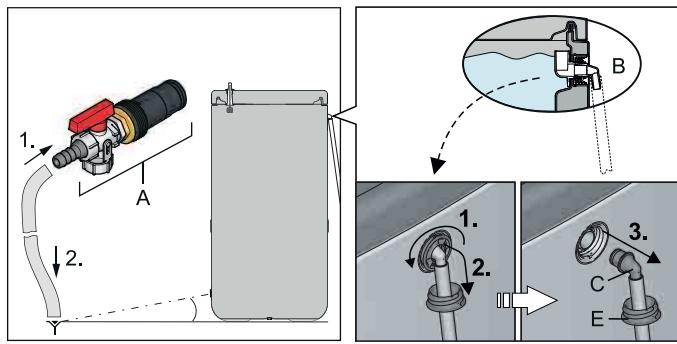
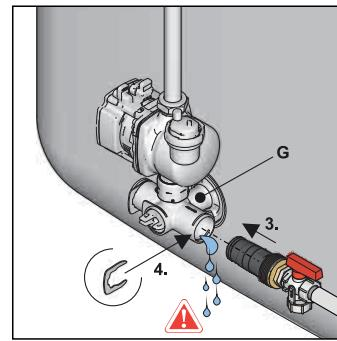

Fig. 6-1 Connecting the drainage hose
Fig. 6-6 Assembling the KFE filling connection in the connecting elbow
- Connect the drain hose to the **KFE filling connection** (**accessory KFE BA, 16 52 15**) (fig. 6-1, item A) and run to drainage point that is at least soil deep.
If no **KFE filling connection** is available, the connection piece (fig. 6-1, item C) can alternatively be removed from the safety overflow (fig. 6-1, item B) and used.
Tab. 6-1 Legend from fig. 6-1 to fig. 6-6
- Insert the **KFE filling connection** into the connecting elbow and secure using a retaining clamp (fig. 6-6).